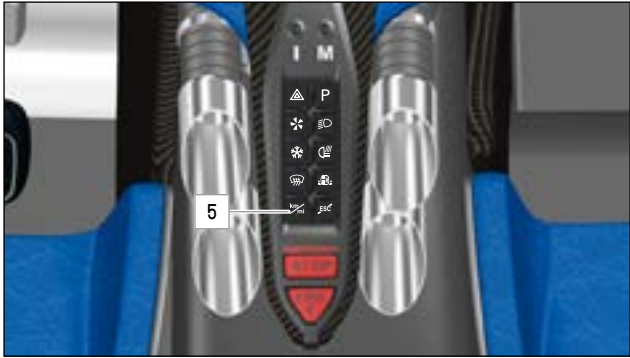

FIG.36 BUTTON TO SWITCH BETWEEN METRIC AND IMPERIAL UNITS FOR DISPLAY ON THE CENTRE CONSOLE
- Press button 5 (» Fig.36) on centre console to switch between metric and imperial units.
Button 5 (» Fig.36) lights up only when pressed.
Press button 5 (» Fig.36) on the centre console to toggle between the following unit combinations: